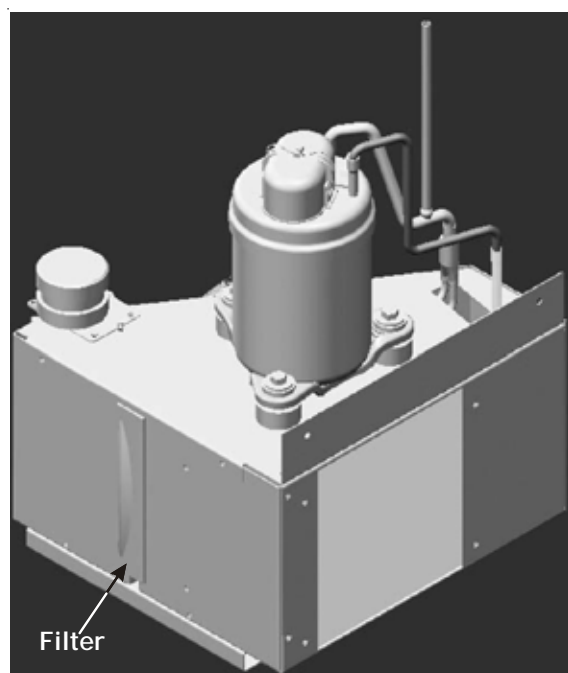

Figure 1 - DigiAIR™ Kit
2. Grasp the filter by its molded handle, located on the side of the kit (see Figures 1 & 2).